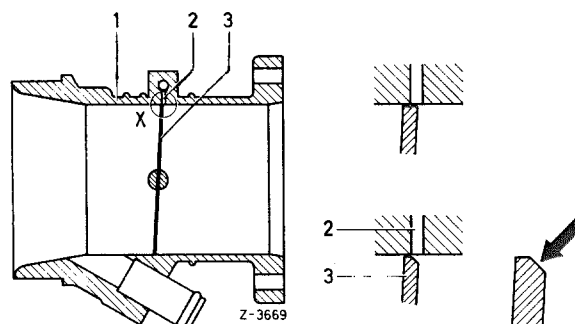

Fig. 07–14/35
In case of complaints regarding surging in the over-run, check whether the vacuum bore (2) in the venturi control unit (1) is sufficiently cleared for the ignition advance (Fig. 07–14/35).
throttle valve (3). If so, slightly chamfer inner side of throttle valve (see arrow in Fig. 07–14/35) until bore is completely cleared.